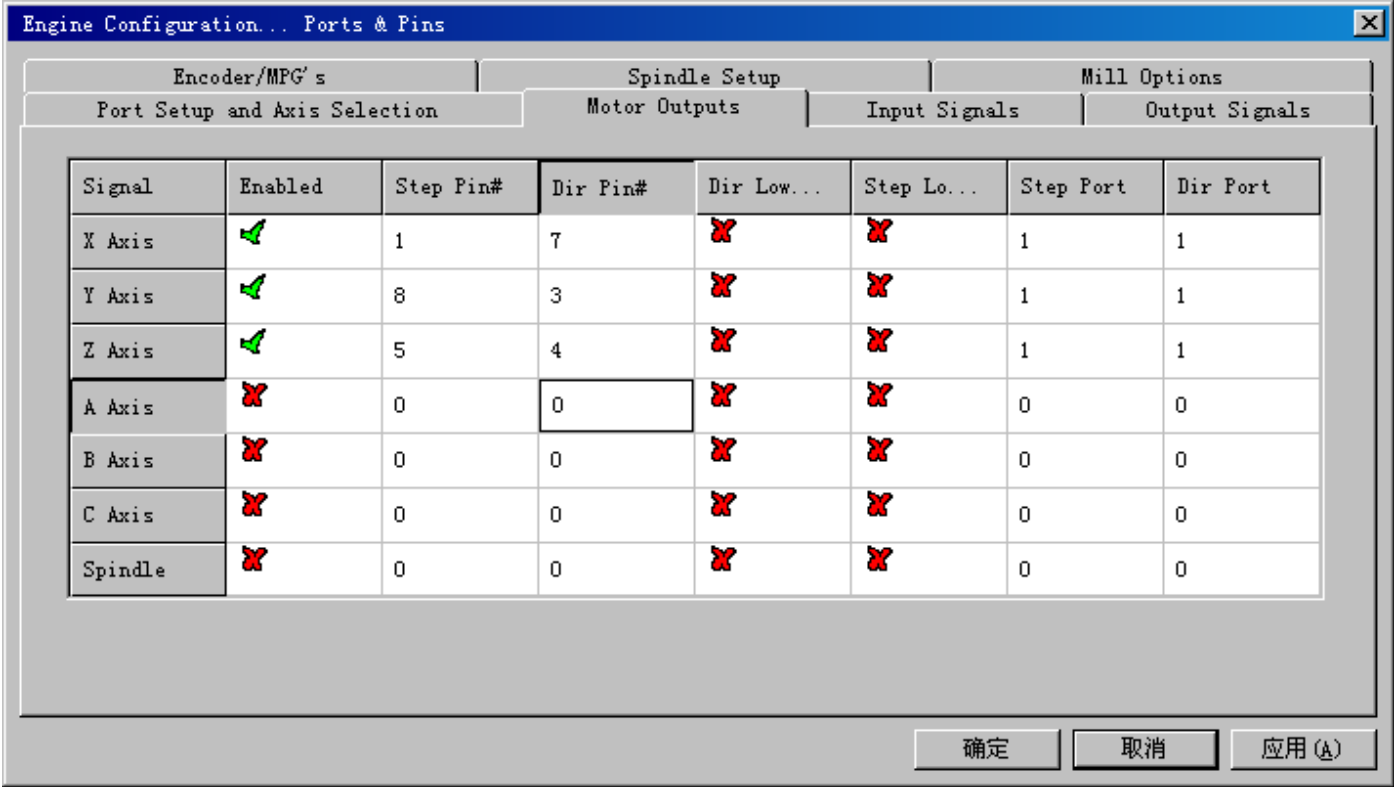
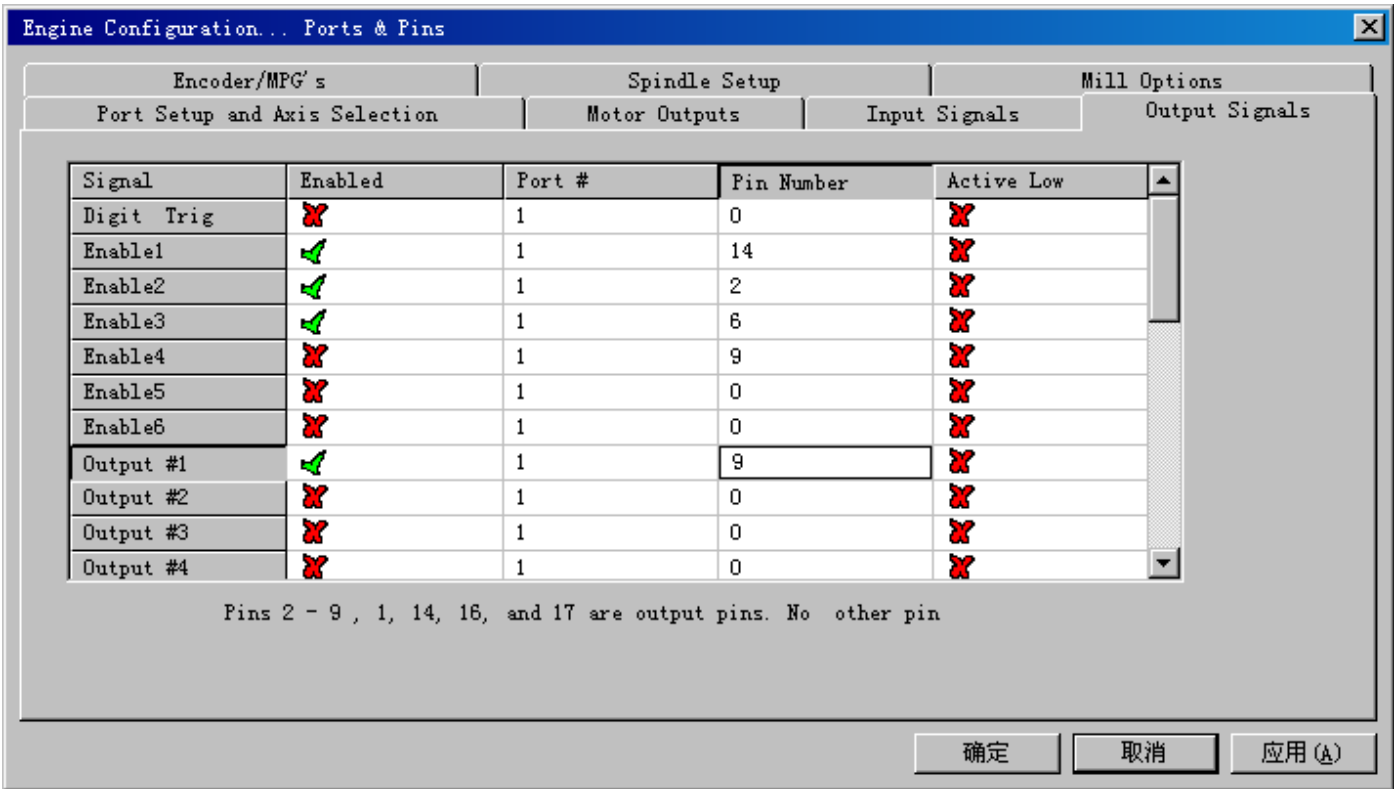

Fig.5
Fig.6
defined, please refer to Fig.5.
Then select the *output signals* column, as shown in Fig.6, and set up the corresponding items per the setup described in the circle.
- Please double check the software settings according to the Fig.5 and Fig.6